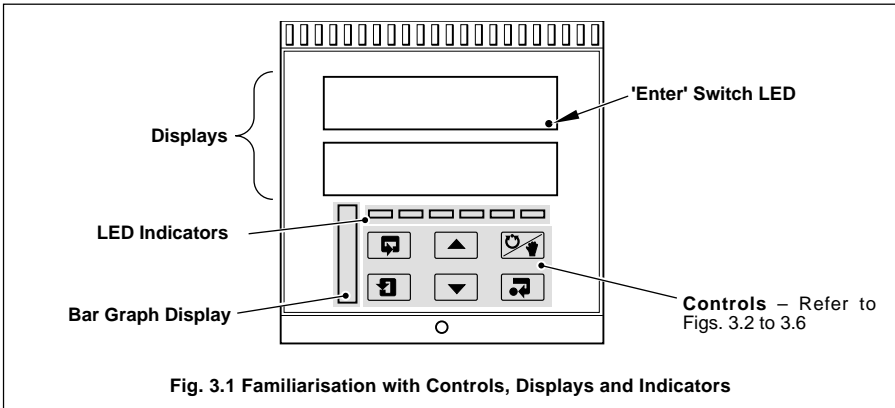

Fig. 3.1 Familiarisation with Controls, Displays and Indicators
3.1 Displays and LED Indicators – Fig. 3.1
3.2 LED Indication – Fig 3.1